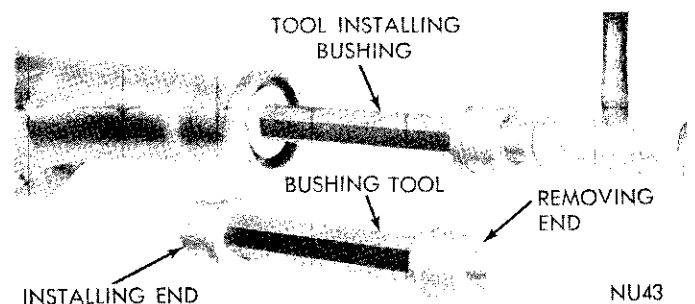

Fig. 48—Replacing Extension Housing Bushing
(2) Press or drive out bushing with Tool C-3974 (Fig. 48).
(3) Slide a new bushing on installing end of Tool C-3974. Align oil hole in bushing with oil slot in the housing, then press or drive bushing into place (Fig. 48).